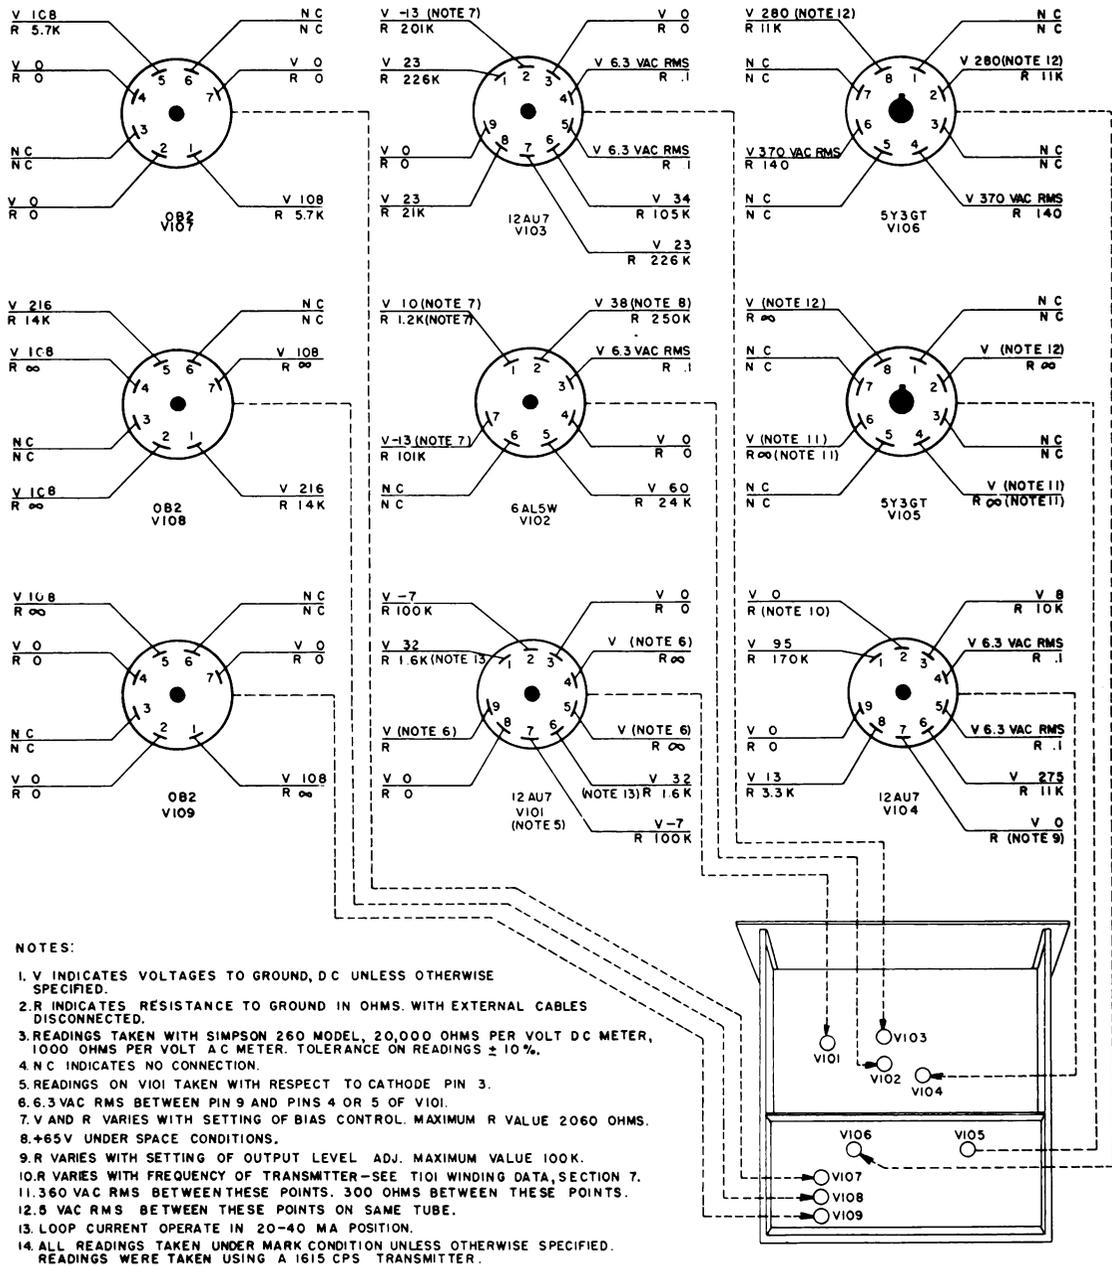
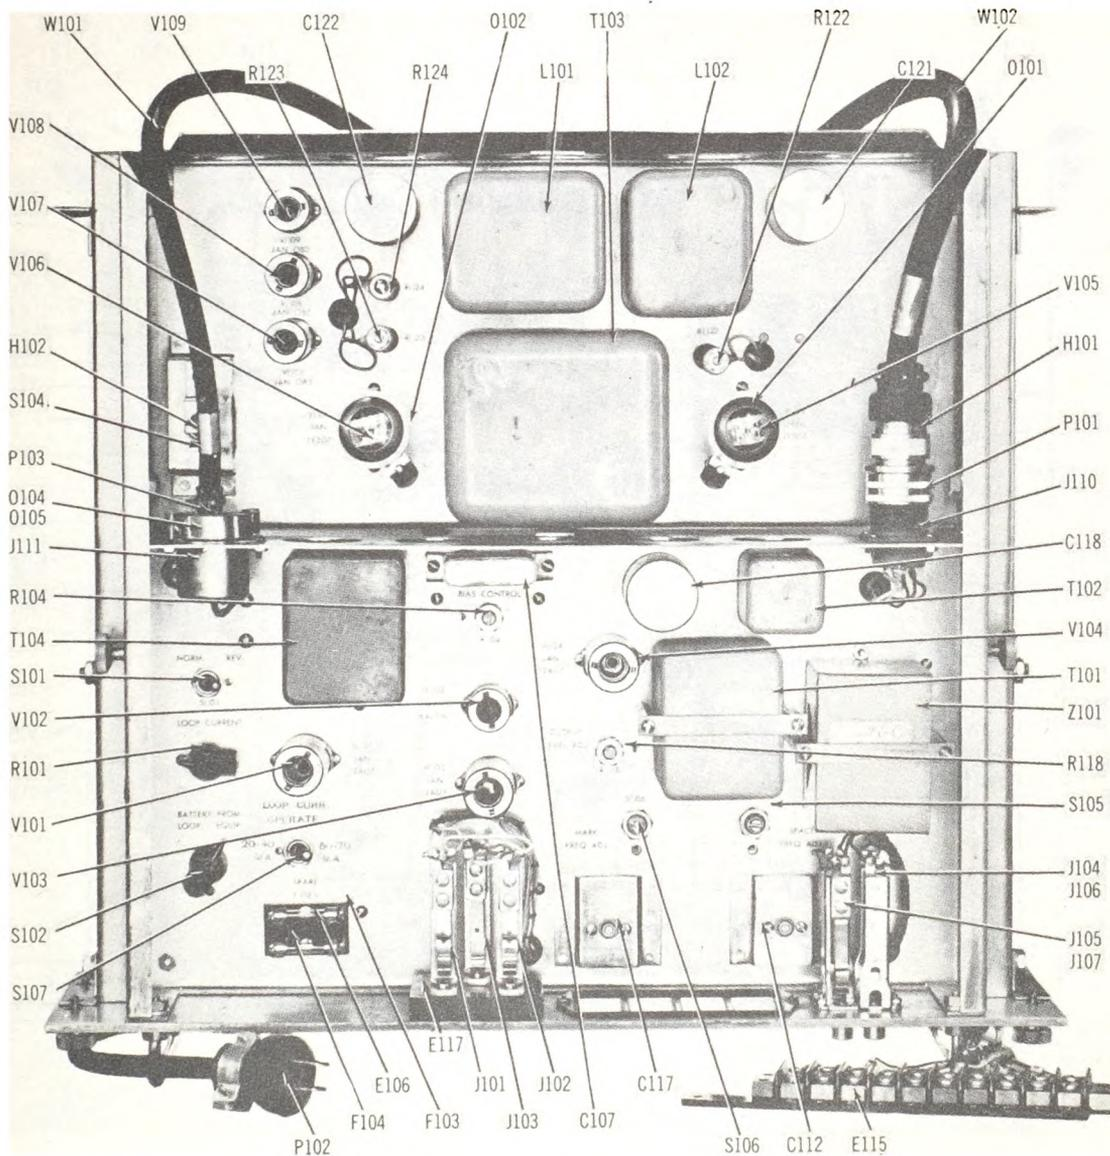
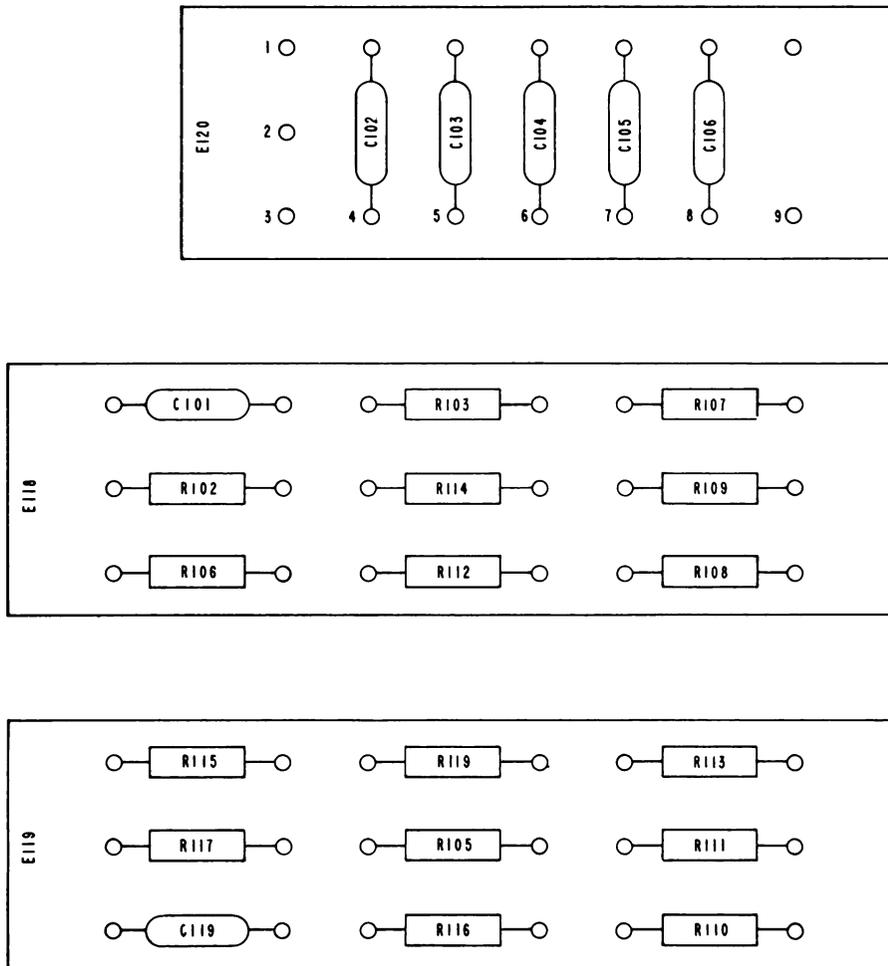

Figure 7-4. Telegraph Carrier Transmitter Voltage and Resistance Chart
Figure 7-5. \* Top View of Telegraph Carrier Transmitter
Figure 7-7. Components Location, Terminal Boards of Telegraph Carrier Transmitter
a. GENERAL. - The telegraph carrier transmitter converts the DC telegraph pulses to frequency shift carrier signals. A failure in this unit normally affects only the channel in which it is used. The MARK and SPACE frequency, signal level, and bias settings of the transmitter should be checked before detailed trouble shooting is started. The block diagram of figure 7-2 will be found helpful in trouble shooting this unit. The trouble shooting chart of table 7-2 describes a signal tracing method for determining trouble. The applied signal for testing can be generated by a telegraph printer or a Distortion Test Set TS-383A/GG. If a telegraph printer provided with a repeat key is used, hold down the repeat key and a single character key such as "R". If a Distortion Test Set TS-383A/GG is available, it can be set to transmit an "R" character. The wave shapes shown on the block diagram of figure 7-2 are those of a 50% MARK and SPACE signal. A letter character would include several MARK and SPACE pulse lengths. A faulty unit can be caused by jacks, 15 kc oscillator circuit, power supply, DC amplifier, carrier oscillator circuit, output amplifier, or filter. After using table 7-2 to locate the stage in which the trouble is located, refer to the schematic diagram of figure 7-8 and trouble shoot the individual components. Typical voltages and resistances are given in figure 7-4. The physical location of the components can be determined from the wiring diagram of figure 7-9 and the top and bottom views of the unit as shown in figures 7-5 and 7-6. Figure 7-7 locates the components on the terminal boards.